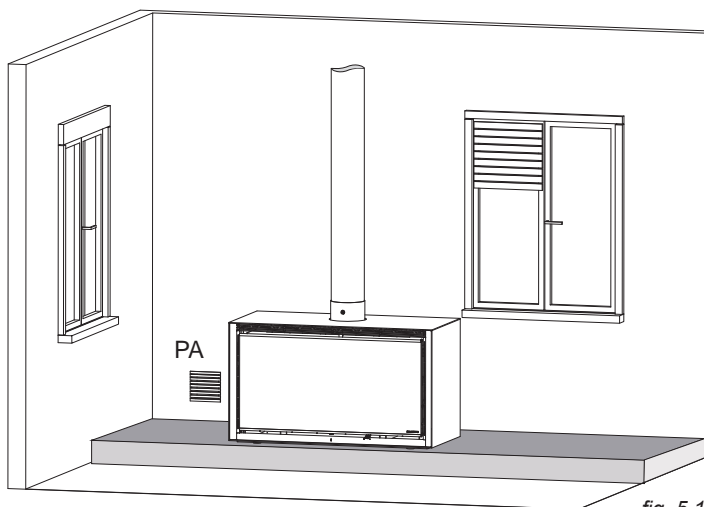

fig. 5.1
- ! When the stove is working it takes a quantity of air (although it is not very much) from the room it is installed in; there should be an external air intake to make sure there is always enough air in the room (Fig. 5.1 - PA = Air Intake).